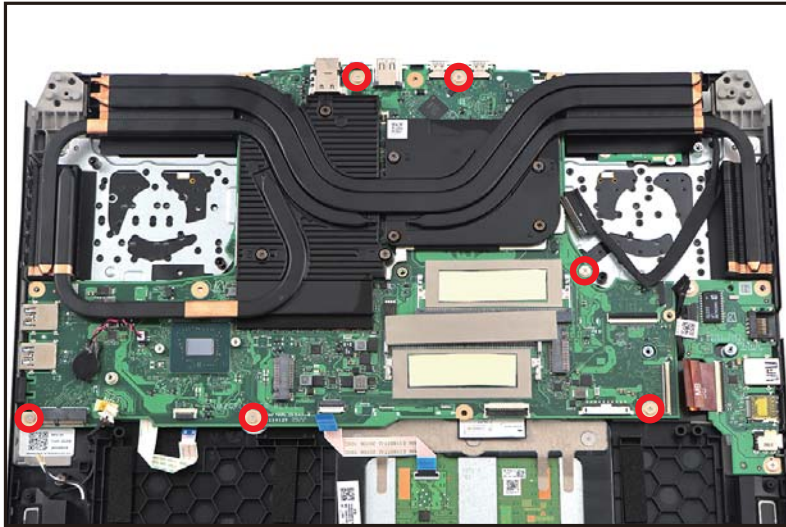

Figure 1-27. Mainboard Removal
6. Remove six (6) screws securing the mainboard (Figure 1-27).